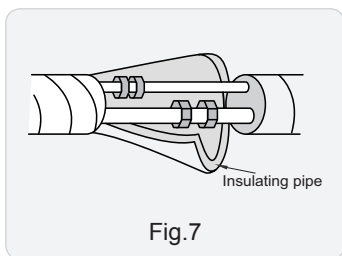

Fig.7
(4) Wrap the indoor pipe and joint of connection pipe with insulating pipe, and then wrap it with tape. (As show in Fig.7)